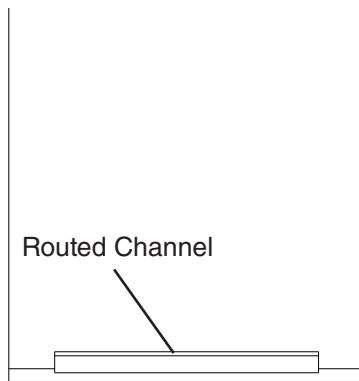

Fig. 1
- 1) Route a channel at the bottom of the overlay panel to the proper dimensions. See "(C) Routed Area" in the specification diagram and Fig. 1.